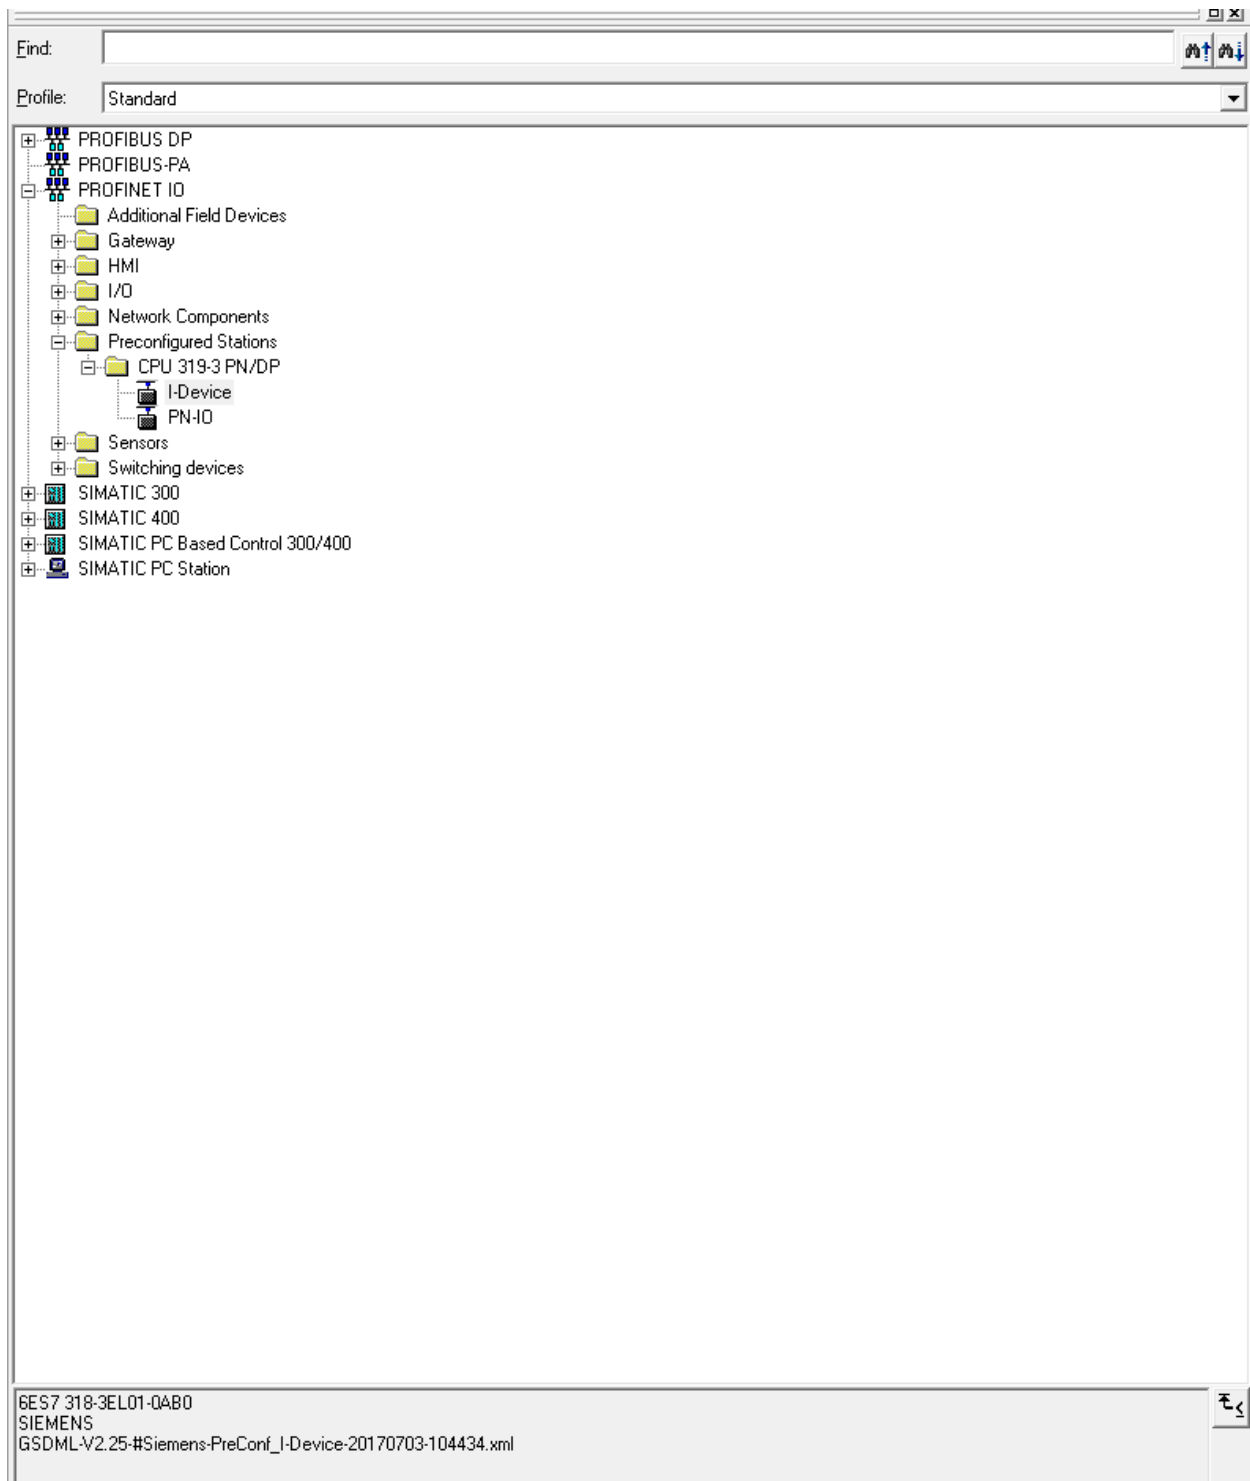

Figure 8: Adding GSD file of I-device
5. From component list at the right, add GSD file of I-device from "Preconfigured Station" under "PROFINET IO" as shown in Figure 8.